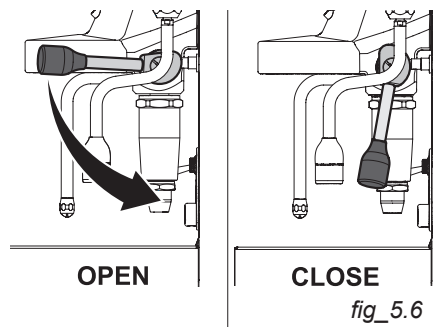

fig. 5.6
- Lower the coffee dispensing lever completely to stop the water flow (fig. 5.6)